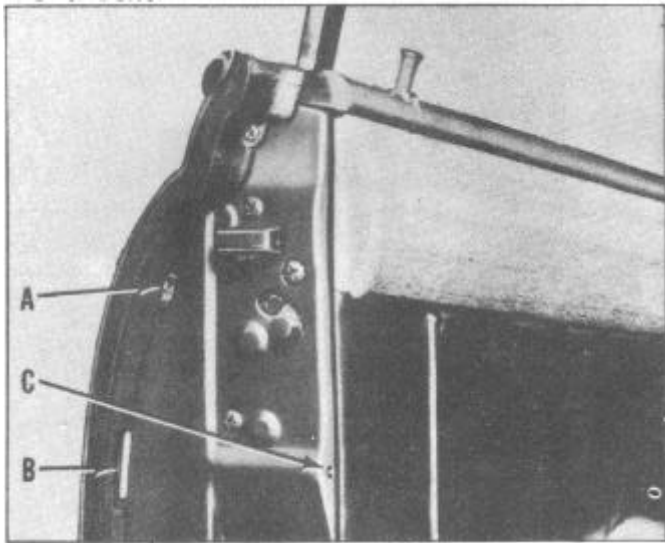

FIGURE 26
To remove the door outside handle, remove Phillips head screw (A), Figure 26, from edge of door. Push handle forward and lift handle out of door.